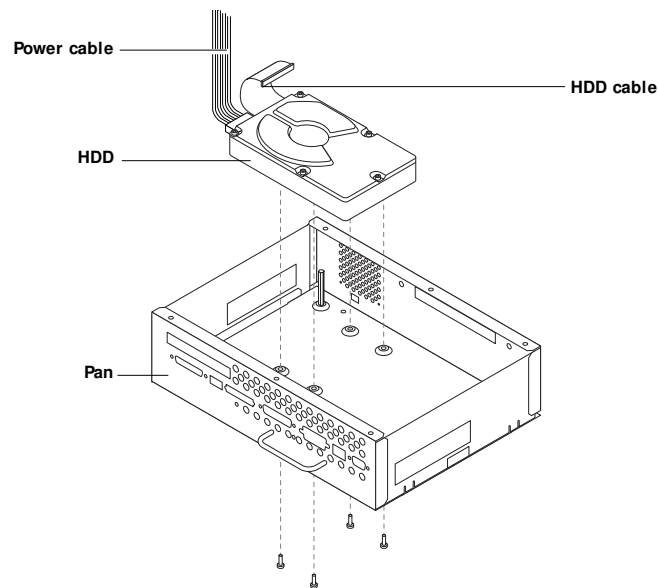

FIGURE 4-13 Replacing the HDD
4. With the pan on its side, remove the four screws on the bottom of the pan that secure the HDD (see Figure 4-13).
3. **With the pan on its side, align the four holes in the bottom of the HDD with the holes in the bottom of the pan and replace the four screws you removed earlier (see Figure 4-13 on page 4-22).**